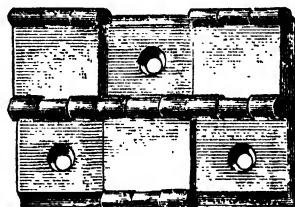
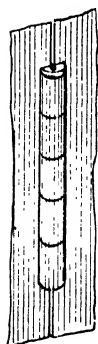
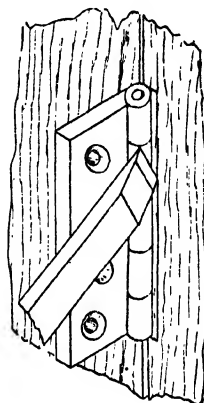

Fig. 412.
Fig. 413.
Fig. 417.
Fig. 412.—Screen Hinge Open. Figs. 413 and 414.—Hinge let in, with Centre on Centre Line of Joint. Fig. 415.—Hinge Set Out on Door Stile. Fig. 416.—Flange of Butt Hinge Secured. Fig. 417.—Marking Thickness of Hinge Knuckle.
door may be taken away temporarily from its opening without the necessity of taking out screws, etc. Fig. 403 is a rising butt, sometimes called a skew butt. The object aimed at in the use of this butt is to make the door rise as it is opened, so that it may clear carpets, etc., without leaving a wide space at the bottom of the door when it is closed. The sizes of the above hinges vary from 1 in. to 6 in. At Fig. 404 is illustrated Gerrish's single-action spring hinge, used where it is necessary that a door should close by itself and remain closed; and at Fig. 405 is shown a double-action spring hinge by the same maker. Fig. 406 is a view of Cartland's patent double-acting spring hinge. The last three mentioned vary in size from 3 in. to 5 in. Fig. 407 gives views of a centre-pin hinge, generally used at the top of doors, and in connection with the floor spring hinge illustrated at Fig. 408. These latter hinges are made both single-acting and double-acting. The object of using double-acting spring hinges is to allow of a door being pushed or pulled open, and then for it to gradually swing into its proper closed position. Fig. 409 is a view of an H hinge; Fig. 410 of a cross garnet; and Fig. 411 of a hook-and-eye or hook-and-strap hinge. Each of these is used for commoner purposes, such as ledge doors, etc. Fig. 412 shows the screen hinge.
**Putting on Hinges.**—Some workers let in hinges so that their centres come to the centre of the joint of the door (*see* Figs. 413 and 414); then when the door happens to be left slightly open, people cannot peep in and see all over the room. This plan, however, causes the joint of the door to come so close that the door will not open much more than square before it binds on the mouldings, and very soon somebody pushes it back too far and the door is partly torn from its hinges. It is therefore, preferable (for the door of a room) to keep the top hinge out nearly  $\frac{1}{4}$  in., and the bottom one  $\frac{1}{8}$  in. more. Set out the hinges on the door stile (the upright side piece) as shown in Fig. 415, the lines A and B being made with a marking gauge. Saw and pare out, and then screw the flange of the butt in position, as shown in Fig. 416. Its surface should be just flush with
the edge of the door. Next offer the door in position, pushing a wedge underneath until a joint about the thickness of a penny is obtained at each side and at the top. Mark the position of the hinges both at top and bottom with a chisel; then with the chisel mark the thickness of the knuckle on the edge of the jamb, as shown in Fig. 417. This will give the depth to which to let the hinge in. The other edge of the hinge should not be let in more than its own thickness, and care should be taken to drive the screws in square with the hinge. For packing up a hinge when too much of the wood has been cut away, use some thicknesses of paper or thin cardboard; these do not split as does a shaving of wood.